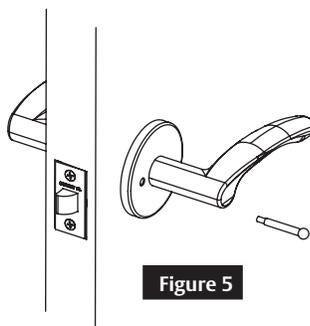

Figure 5
6. For DLU65 privacy function, install push button. See Figure 5.